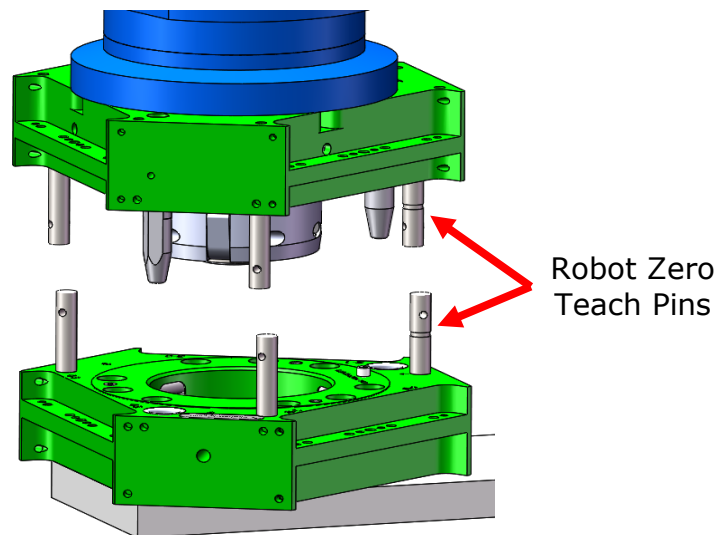

Figure 4.1-1. Orientation of Teach Pins
1. After the Teach Pins are installed on the Robot Side and Tool Side, move the Robot Side over the Tool Side, orienting the Teach Pins correctly by matching the Robot Zero Teach Pins (Figure 4.1-1).